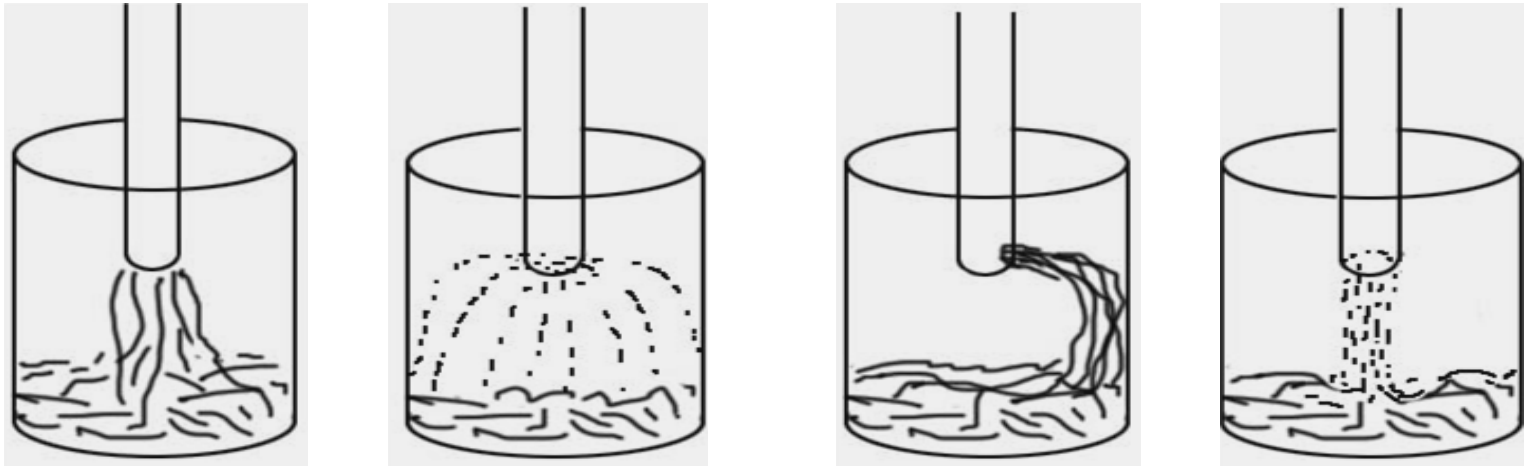

Figure 20.9 Nozzle types
- Different types of products require different nozzle designs and sizes (Figure 20.9).